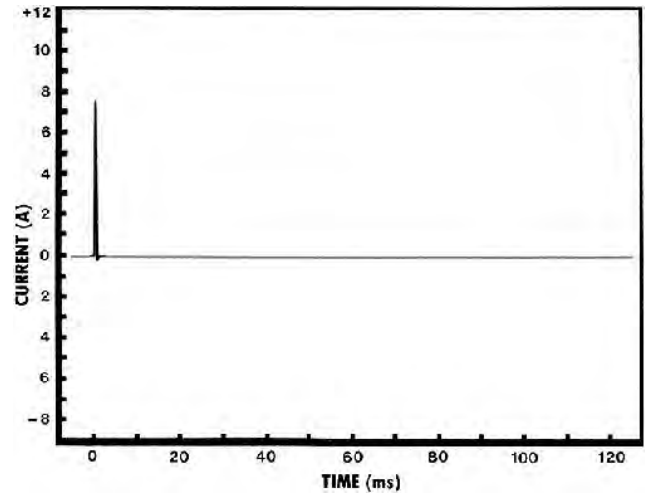
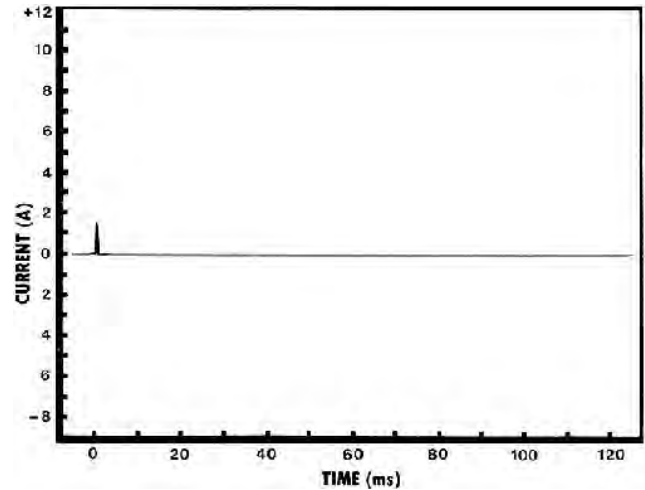

FIGURE 3. Current Delivered to a Well-Grounded Cow Touching a 5.4 km Well-Insulated Fence.
FIGURE 5. Current Delivered to a Normally-Grounded Cow Touching a 5.4 km Well-Insulated Fence.
**Electrical Charge:** FIGURES 3 to 6 show the current output of the Gallagher E12 when a cow touches 5.4 and 16 km (3.3 and 10 mi) lengths of well-insulated, single wire, fence. FIGURES 3 and 4 are for an animal resistance of 0.5 kΩ, which represent the most extreme condition of a cow standing in water and licking the charged wire, while FIGURES 5 and 6 are for an animal resistance of 4 kΩ, representing more normal ground conditions. The shock intensity is related to the peak current in the pulse. The higher the Peak current, the more intense will be the shock.